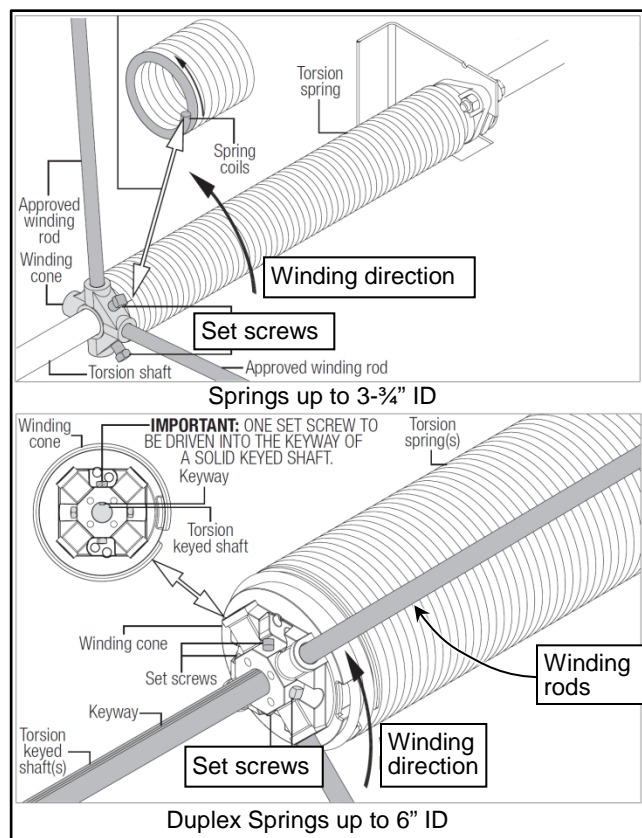

Figure 86
- Insert winding bar into winding cone and rotate upward $\frac{1}{4}$ turn. Insert the second winding bar into the winding cone, take up the torque load, and rotate $\frac{1}{4}$ turn. Remove the first winding bar (See Figure 86)
10. Alternately continue to wind the spring until the required number of Spring Turns for your door as listed in the Object List is achieved. (See Figure 12 & Figure 86)
11. As the last $\frac{1}{8}$ – $\frac{1}{4}$ turn is achieved securely hold the winding rod while tightening the set screws in the winding cone. Once the set screws contact the counterbalance-drive shaft tighten the screws an additional $\frac{1}{4}$ to $\frac{1}{2}$ full turn. (See Figure 12 & Figure 86)
IMPORTANT: One set screw must be driven into the keyway of the solid keyed shaft as in Figure 86.
12. After the torsion spring is secure, use the winding bar to apply pressure in the opposite direction to ensure the set screws are securely fixed to the torsion shaft. The winding cone should be tight enough so that when you pull down on the bar, the door should begin to lift. If the bar starts to slip when you pull it down, add $\frac{1}{4}$ turn to each set screw. (See Figure 86)